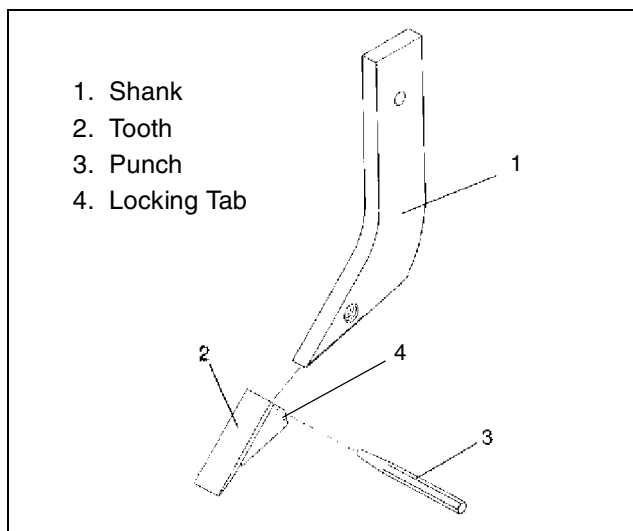

Figure 6. Scarifier Point Replacement
2. Refer to Figure 6. Remove worn tooth by driving a chisel between the shank (1) and tooth (2).
3. Install replacement tooth and use a punch (3) topeen the locking tab (4) into the retaining hole on both sides of the shank.